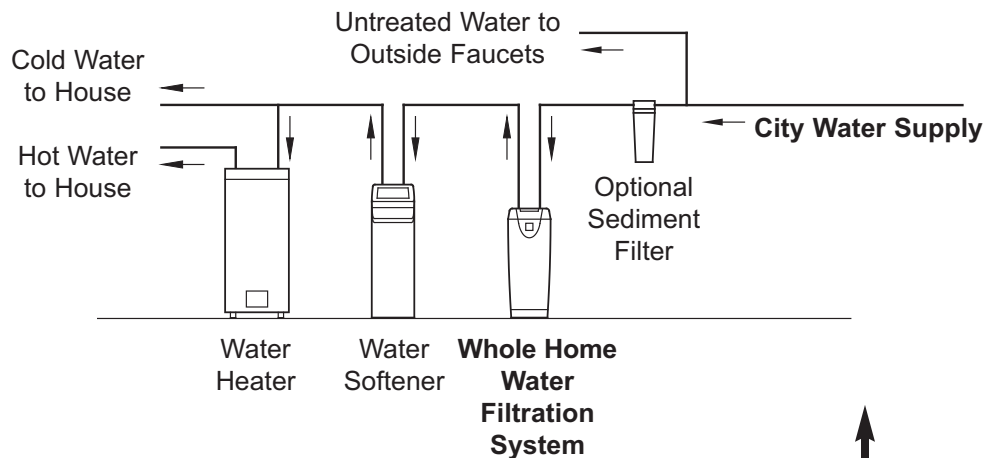
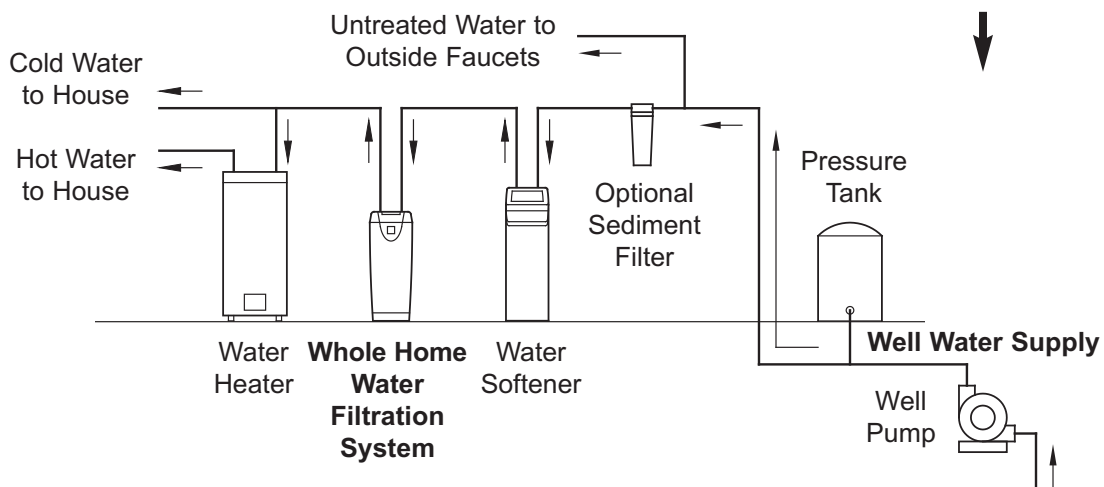

FIG. 3A
FIG. 3B
- For a home with municipal water supply, install the Central Water Filtration System between the home's incoming water supply and the water softener, if one is being used (See Figure 3A). If the home has well water, reverse the order of the Central Water Filtration System and the water softener (See Figure 3B).
- Do not install the Whole Home Water Filtration System on a hot water line (See Figures 3A & 3B, below).